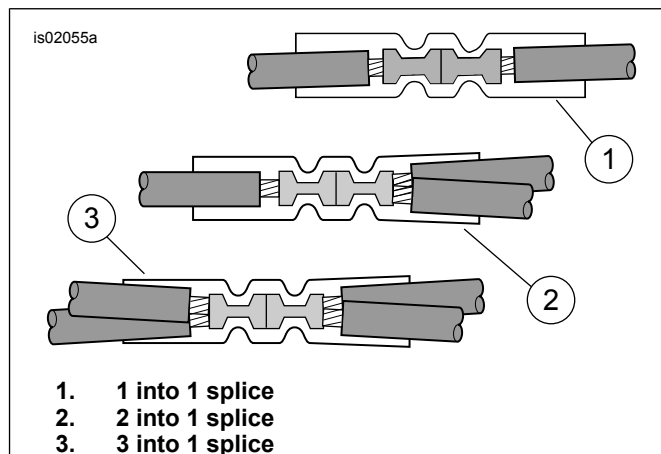

Figure 7. Splice Configurations
4. See Figure 22. Obtain a sealed splice connector (3) from the kit. See Figure 7, the two into one splice configuration. Splice the heated hand grip wire harness power lead, to the main harness orange/white wires per the instructions in the service manual appendix.
6. See Figure 22. Obtain a sealed splice connector (3) from the kit. See Figure 7, the one into one splice configuration. Splice the heated hand grip wire harness power lead, to the adapter wire per the instructions in the service manual appendix.
3. See Figure 22. Obtain a sealed splice connector (3) from the kit. See Figure 7, the two into one splice configuration. Splice the heated hand grip wire harness power lead, to the cut orange/white wires per the instructions in the service manual appendix.
- See Figure 22. Obtain a sealed splice connector (3) from the kit. See Figure 7, the two into one splice configuration. Splice the heated hand grip wire harness power lead, to the main harness orange/white wires per the instructions in the service manual appendix.
- Install the 2A fuse (12) from the kit into the fuse cavity to complete the circuit.